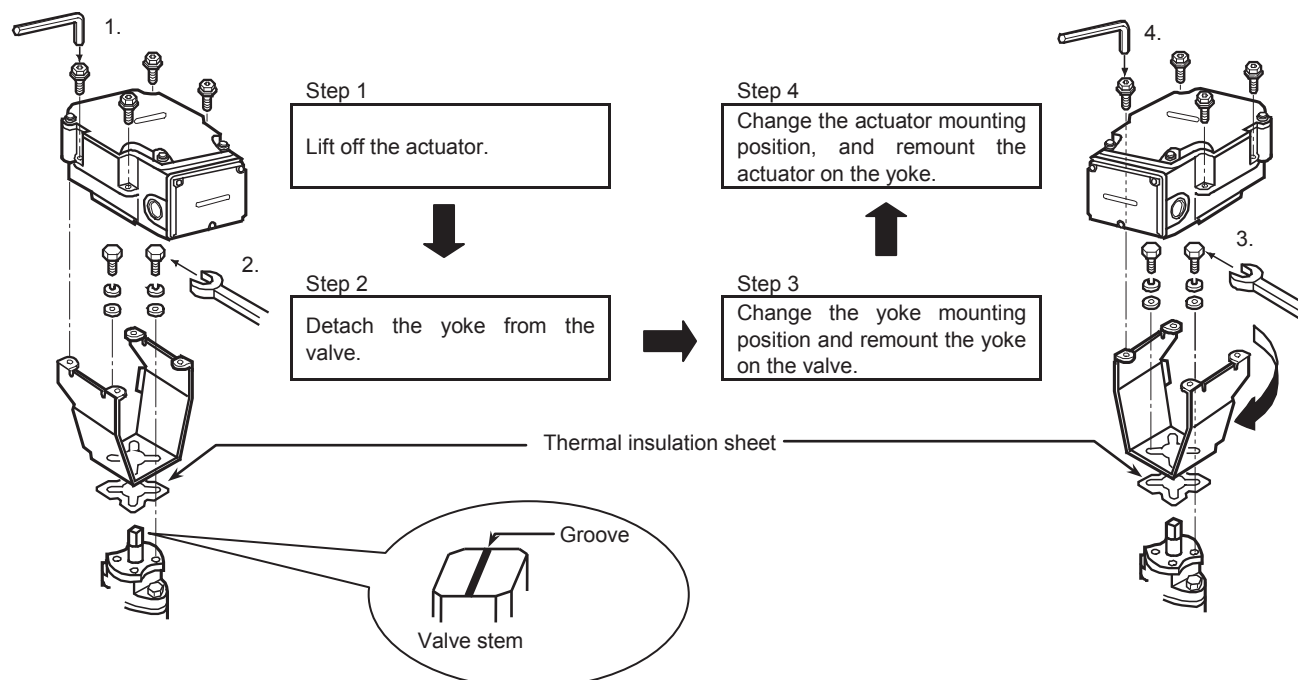

Figure 8. Changing the actuator mounting position
- 1) Remove the screws connecting the actuator and the yoke. Lift the actuator and detach it from the yoke. Make sure that the groove on the top of the valve stem is parallel to the pipes (indicating the valve in 100 % position). <Step 1 in Fig. 8>
- 2) Remove the screws connecting the yoke and the valve. <Step 2 in Fig. 8>
- 5) Before fixing the yoke to the valve with the screws, check that the actuator engages correctly with the valve stem (at the new mounting position). Check that the pointer of the actuator indicates 100 % position as well. Then, fix the yoke to the valve. <Step 3 in Fig. 8>
- 6) Mount the actuator. Place the actuator, with its facing direction changed, on the yoke, and fix with the screws. <Step 4 in Fig. 8>